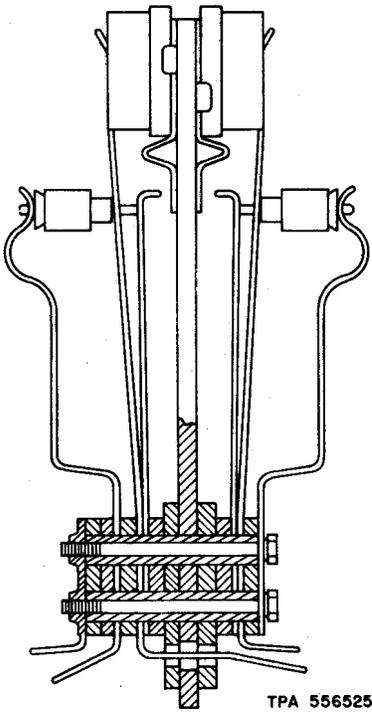

Fig. 2—C50A and C52A Protectors—C50 and C52 Protector Mountings
2.02 The C-type protectors (Fig. 2) are arranged for both heat coils and protector blocks and are intended for use in terminating exposed outside plant cables.